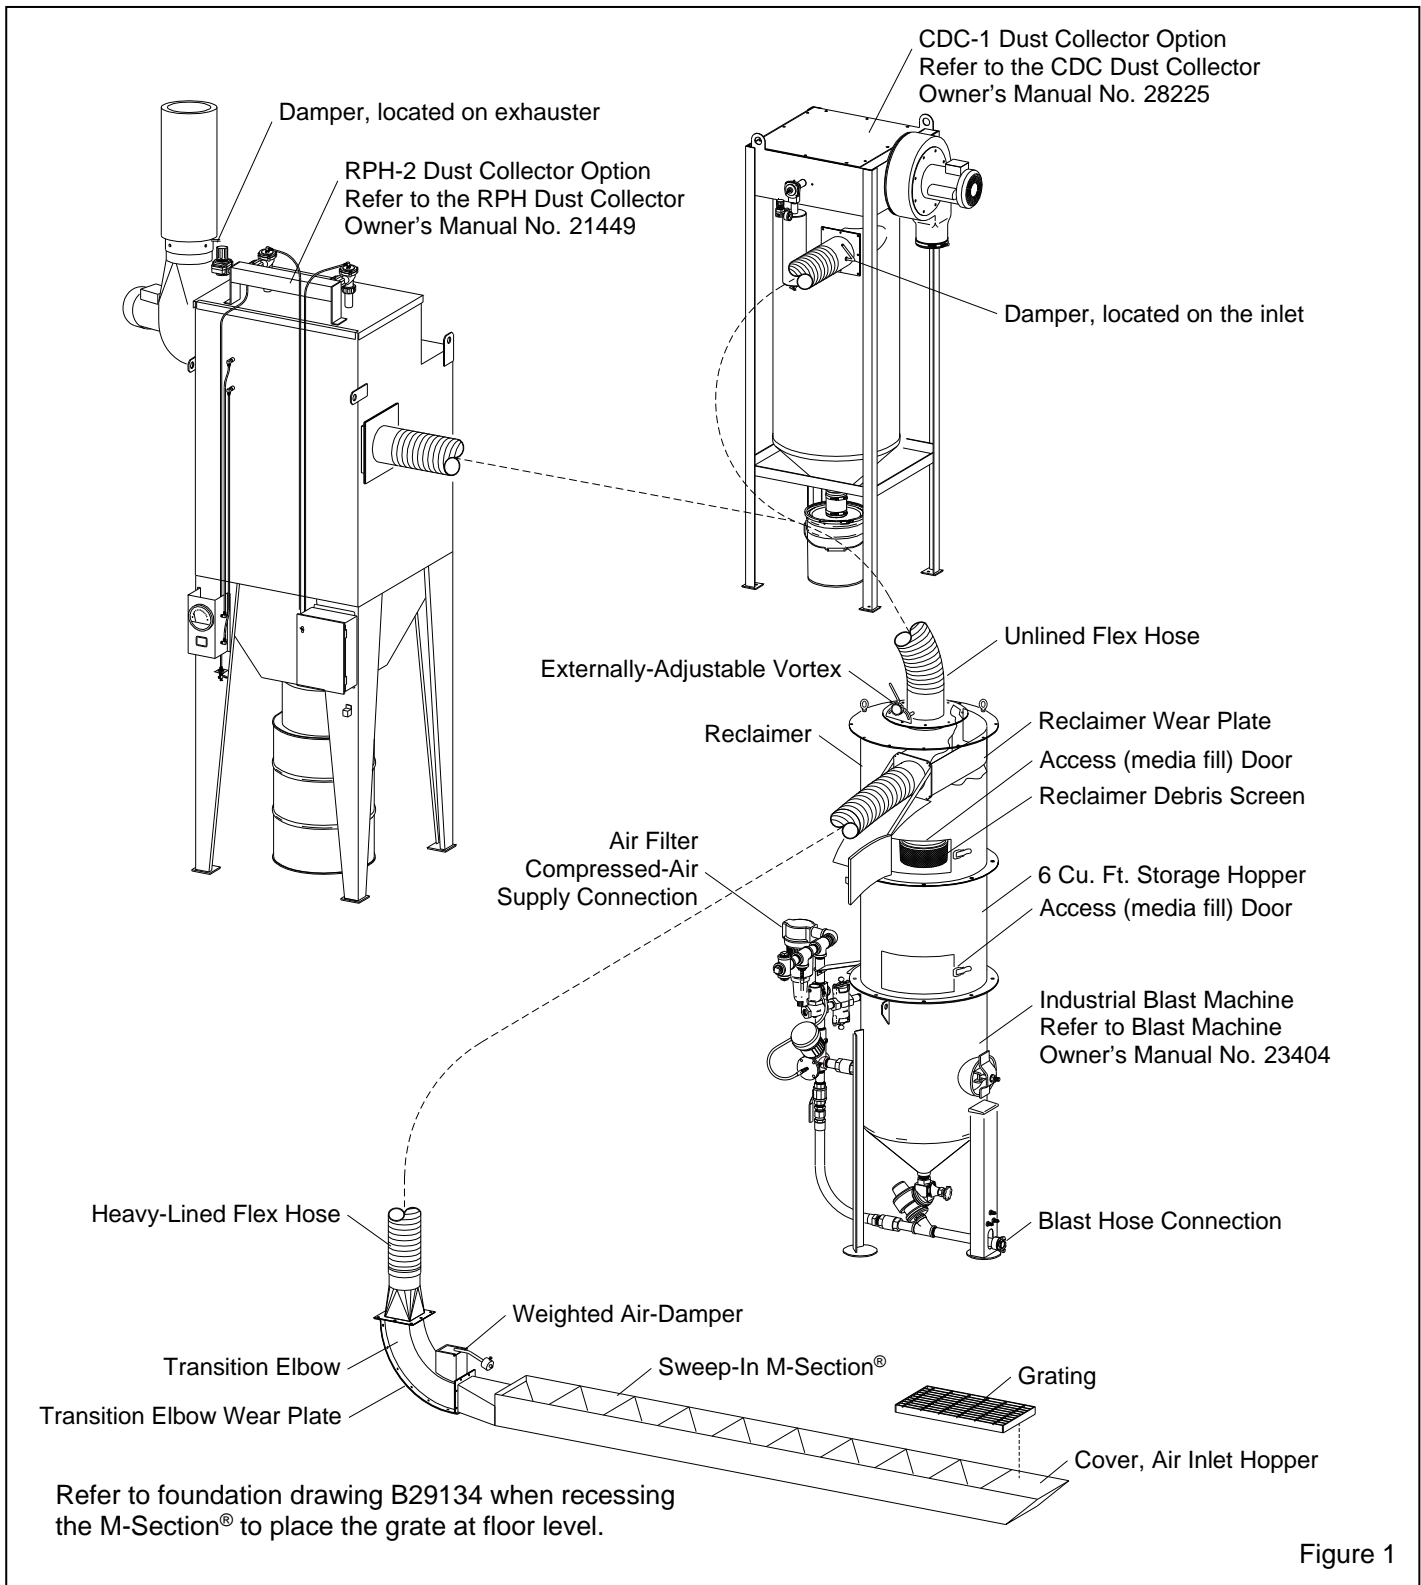

Figure 1
1.3.1 Figure 1 shows the components supplied with standard sweep-in M-Section® systems. If the system was supplied as an engineered project (tailored to customer requirements), refer to the project's general arrangement drawings for the layout of equipment. Standard sweep-in systems consists of:
- Choice of RPH-2 or CDC-1-900 reverse pulse dust collector, the vacuum source for the pneumatic recovery process, pulls recovery air from the M-Section, and through the reclaimer. Both dust collector options are shown in Figure 1.
4.5.1 Connect the heavy-lined flex hose between the transition outlet and reclaimer as shown in Figure 1. Clamp the hose to secure.
4.5.2 Connect the unlined flex hose between the reclaimer outlet (vortex tube) and dust collector inlet as shown in Figure 1. Clamp the hose to secure.